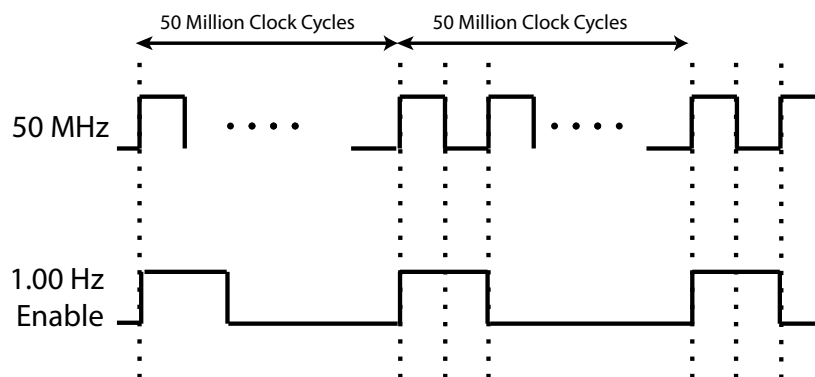

Figure 2: Timing diagram for a 1 Hz enable signal
Let's start with the `Rate divider` module. A `Rate Divider` is a counter that is used to create a slow *pulse* given a faster clock signal. A *pulse* is when a signal is 1 for a single clock period but is 0 at other times. Figure 2 shows a timing diagram for a 1 Hz pulse for an input clock of 50 MHz.
**Creating a pulse.** To create a pulse, you need to count  $N$ -cycles of your input clock before generating your pulse. For example, to create a 5 MHz pulse given a 50 MHz clock, you count 10 cycles of the 50 MHz clock. As you can see, the sizing of your counter depends on ratio between your `clock frequency` and your `pulse frequency`. **Question:** For the case shown in Figure 2, how many bits should the counter be?